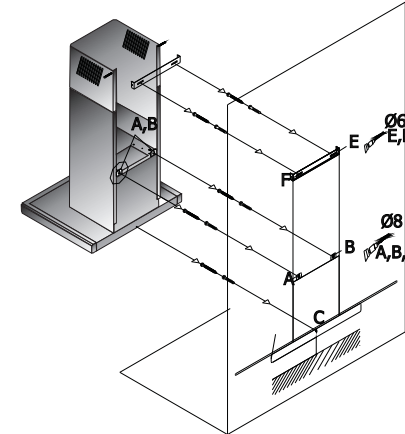

Figure 2a
A) Drilling Hanger Holes Figure 2a